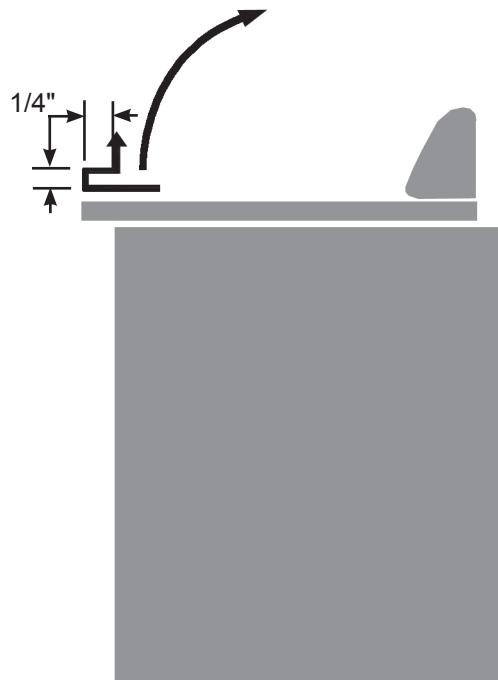

Figure 3
6. While still keeping it lifted, push the top back about $\frac{1}{4}$ ", see figure 3.